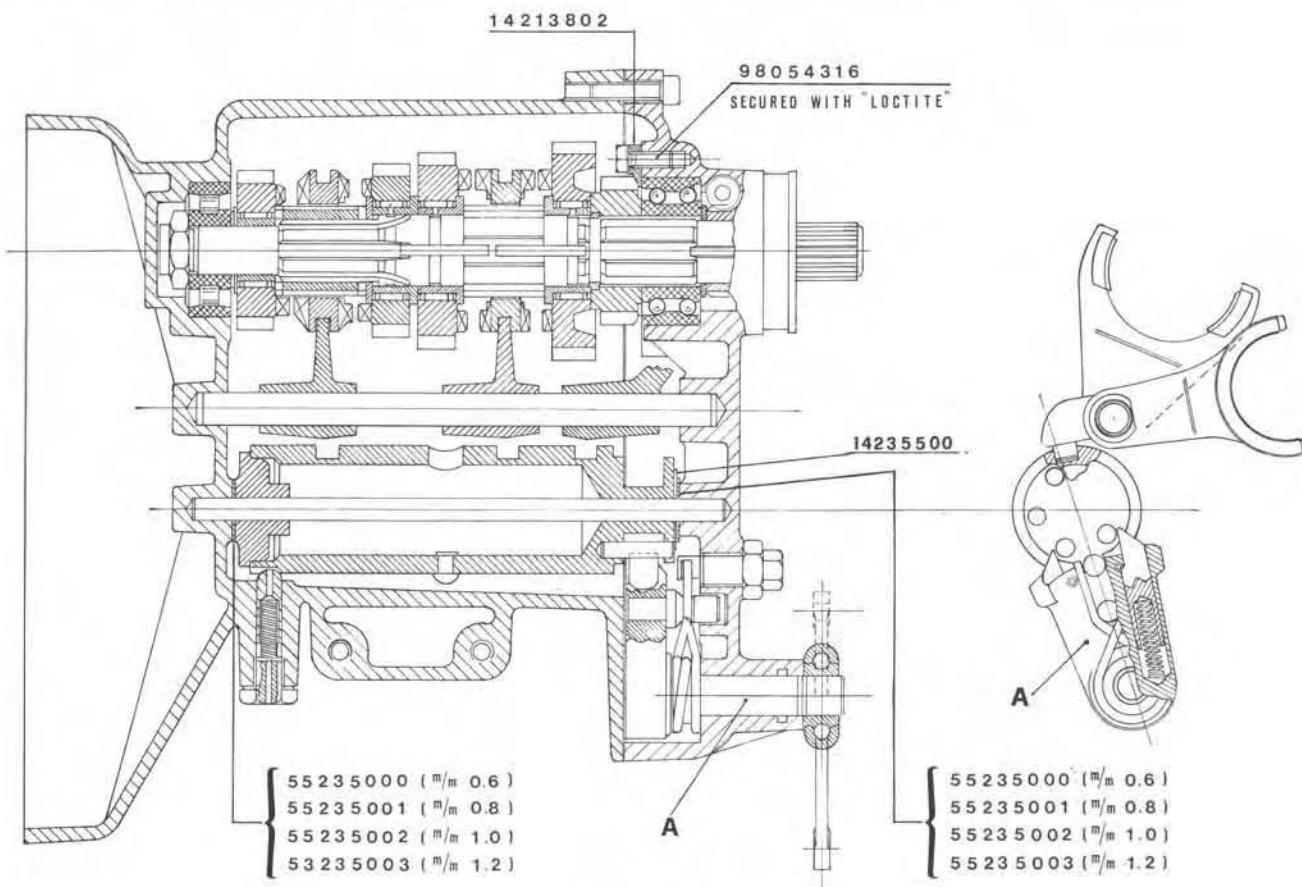

Fig. 86/16
- Fit the fork tip in the drum grooves. To position these in the grooves use special tool part n. 14929300 (41 in fig. 86/13).